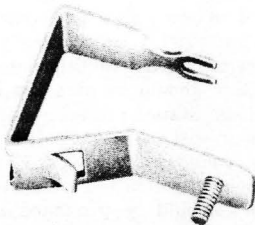

Fig. 32—72A Bracket
- 72A ♦(MD)♦ bracket (Fig. 32)—use with 123A1A and 123E1A protectors for indoor location